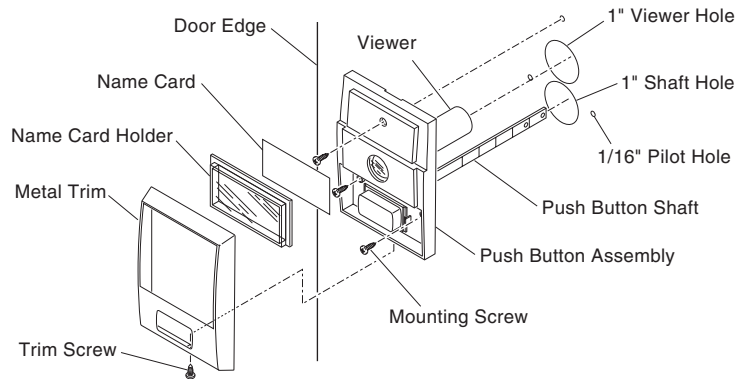

Figure 1 - Attaching Push Button Assembly to Door
2. Using the template provided, mark the location of the mounting holes parallel to the edge of the door (see Figure 1). Note: it is important that the holes are parallel to the edge of the door for proper operation of the chime.
See Figure 1 for push button assembly.
1. Remove metal trim screw, metal trim, name card holder and name card from push button assembly to locate mounting holes (see Figure 1).
2. Insert viewer and push button shaft into pre-drilled until push button assembly is flush against door face. Attach using the three mounting screws provided (see figure 1).
4. Place metal trim over push button assembly and name card holder. Secure trim with trim screw (see Figure 1).